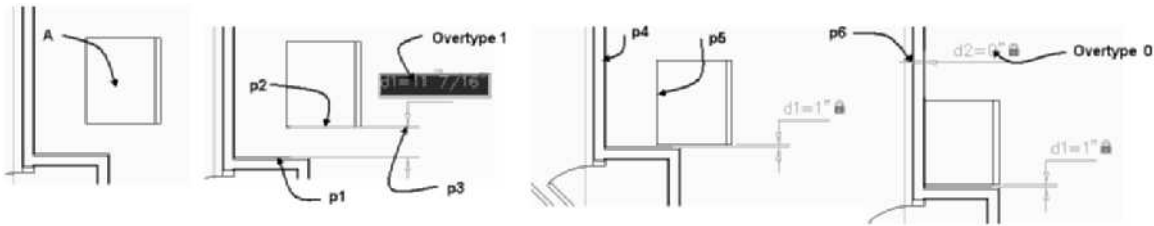

FIGURE 10.42 Placing the refrigerator using parametric constraints
23. Select the Content Browser from the Windows taskbar. Select Design Tool Catalog—Imperial > Equipment > Food Service > Refrigerator [Design Tool Catalog - Metric > Kitchen Fittings > Appliances]. Drag the Top-Bot 31 × 28 [Fridge-freezer A] i-drop onto the Symbols palette. Select the Top-Bot 31 × 28 [Fridge-freezer A] tool from the tool palette and insert the refrigerator at A as shown in Figure 10.42.
Select first line: (Move the cursor to the wall at p1 in Figure 10.42 select the wall when the red assistant line is displayed.)
Select second line to make parallel: (Move the cursor to the refrigerator at p2 as shown in Figure 10.42, select the refrigerator when the red assistant line is displayed at p2.)
Specify dimension line location: (Select a point near p3 as shown in Figure 10.42.)
Select first line: (Move the cursor to the wall at p4 in Figure 10.42, select the wall when the red assistant line is displayed.)
Select second line to make parallel: (Move the cursor to the refrigerator at p5 as shown in Figure 10.42, select the refrigerator when the red assistant line is displayed at p2.)
Specify dimension line location: (Select a point near p6 as shown in Figure 10.42.)